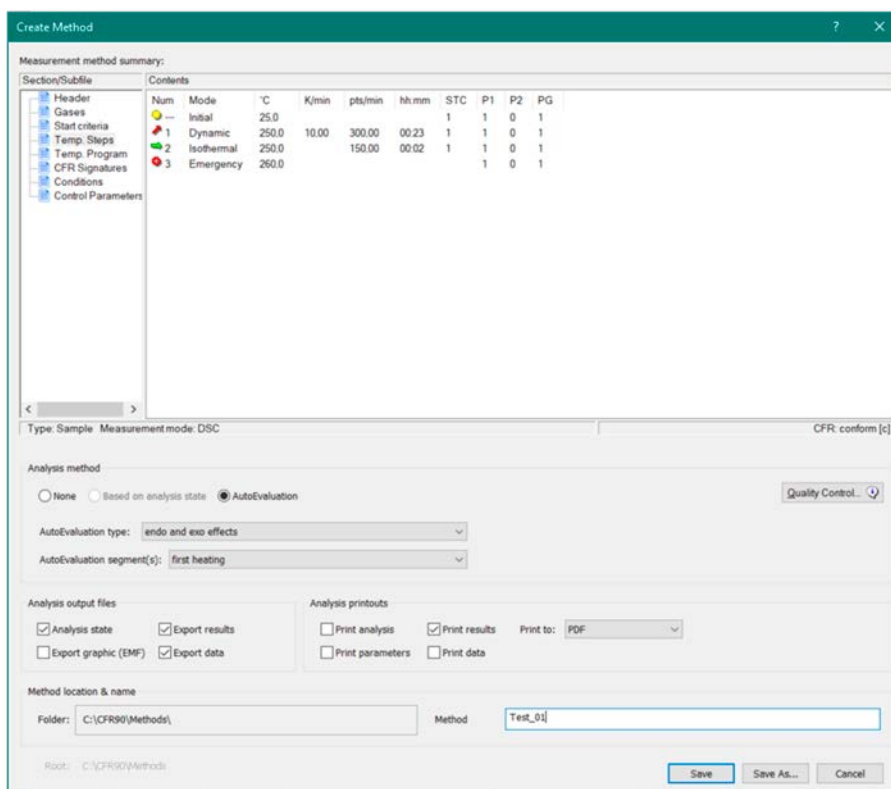

Fig. 2. Example of a method window (German, English, French, Russian\*, Chinese\* and Japanese\* can be selected as user languages)
Particular attention was given to designing the software for simple and intuitive operation. This means that the same method can be used again and again for frequently recurring measurements. A method includes the measurement conditions such as temperature program, gas flows, and calibration curves used, but it is also possible to integrate whether and in what form the data should be evaluated and exported as data and/or results. Figure 2 shows an example of the corresponding method window in
*AutoEvaluation* is capable of finding and evaluating effects in curves independently (exothermal and endothermal effects in Figure 2). It is recommended to select this function if you would like to get a second opinion on the evaluation.
In the method shown in Figure 2, an analysis state will be generated at the end of the measurement and the data and results will be automatically exported (the results in both csv and PDF format, for example).